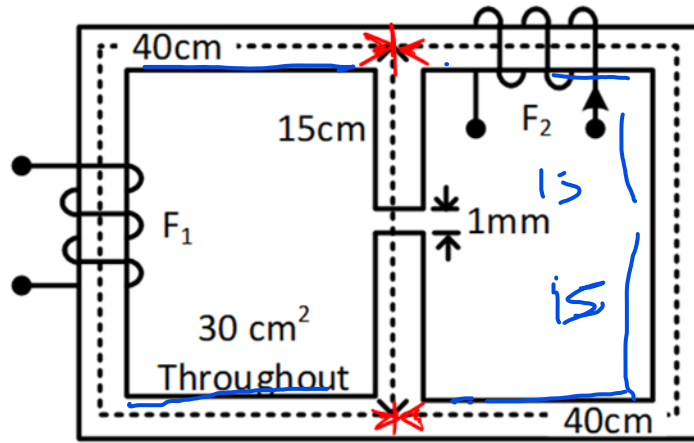

Figure 1
1. In the magnetic circuit of Fig. 1, the coil F₂ is supplying 500 AT in the direction indicated. Find the AT that the coil F₁ must provide to produce a flux of 4 mWb in the airgap. The relative permeability of the core is 4500.